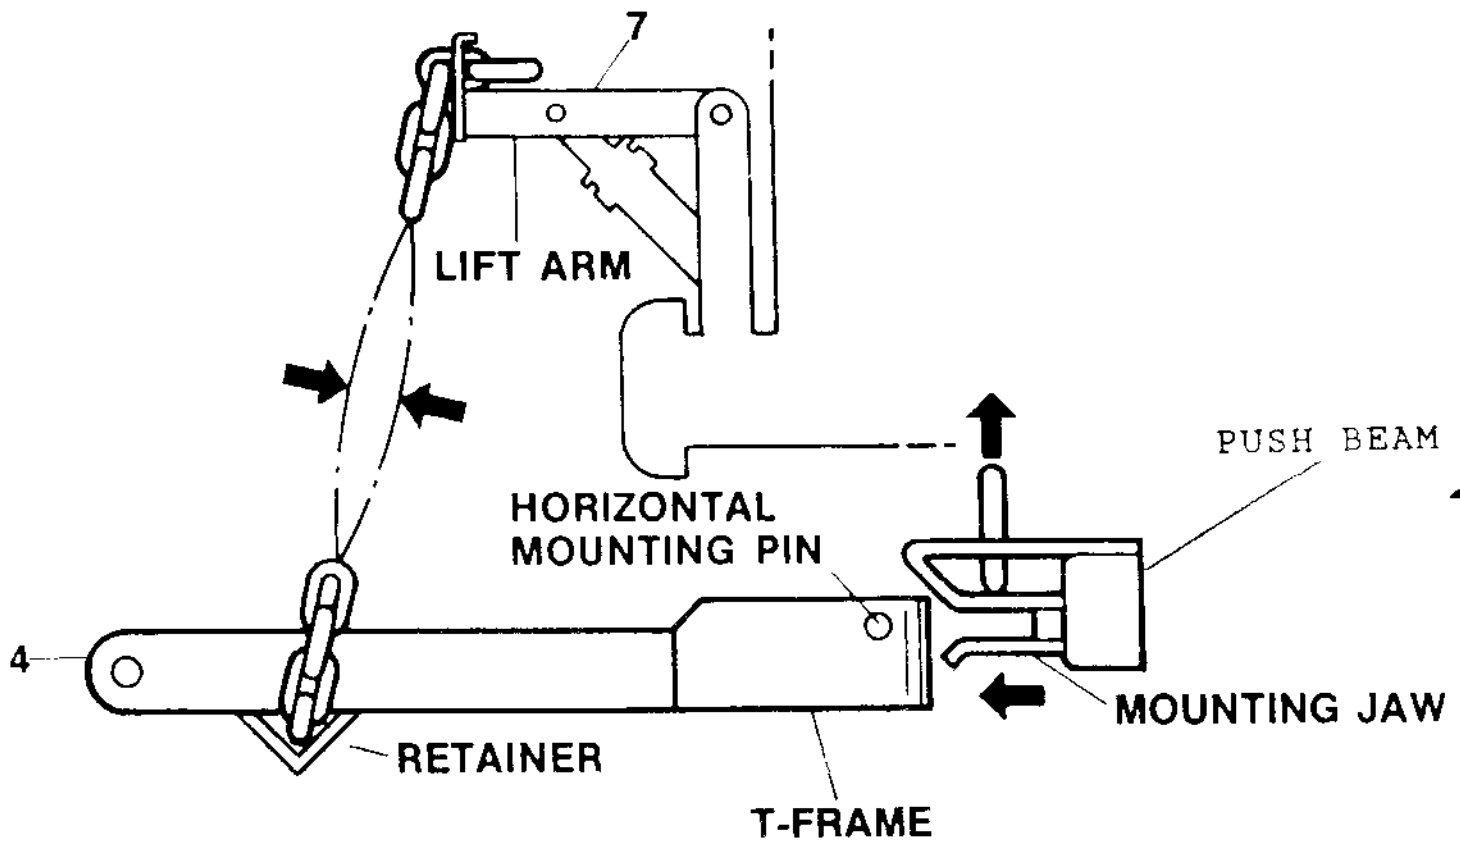

Figure 2
A) V-Plow Measure from the center of the HORIZONTAL MOUNTING PIN (See Figure 2) on the T-FRAME to the ground when the plow is in the vee position. Position the PUSH BEAM ASSEMBLY to the appropriate height so the MOUNTING JAWS (see Figure 2) will accept the HORIZONTAL MOUNTING PIN on the T-FRAME.
B) Straight Blade Plow The distance from the ground to the top of the lower mounting jaw should be approximately 11-1/2" (See Fig. 2).